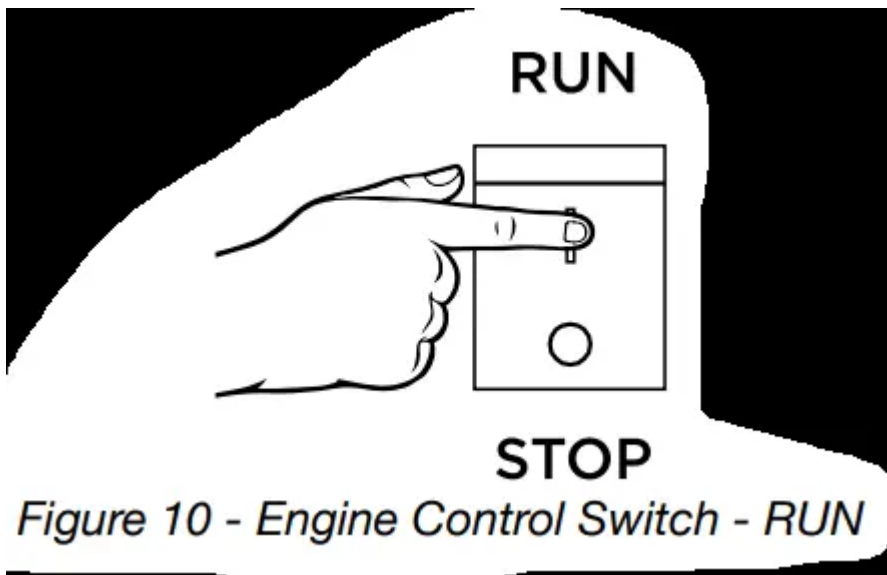

Figure 10 - Engine Control Switch - RUN
5. Push the engine control switch into the RUN position (see Figure 10).